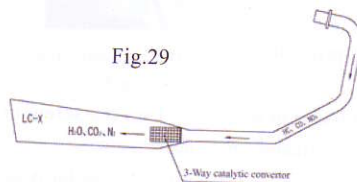

Fig.29
3-way catalytic converter (Optional) (EP) (Fig.29)